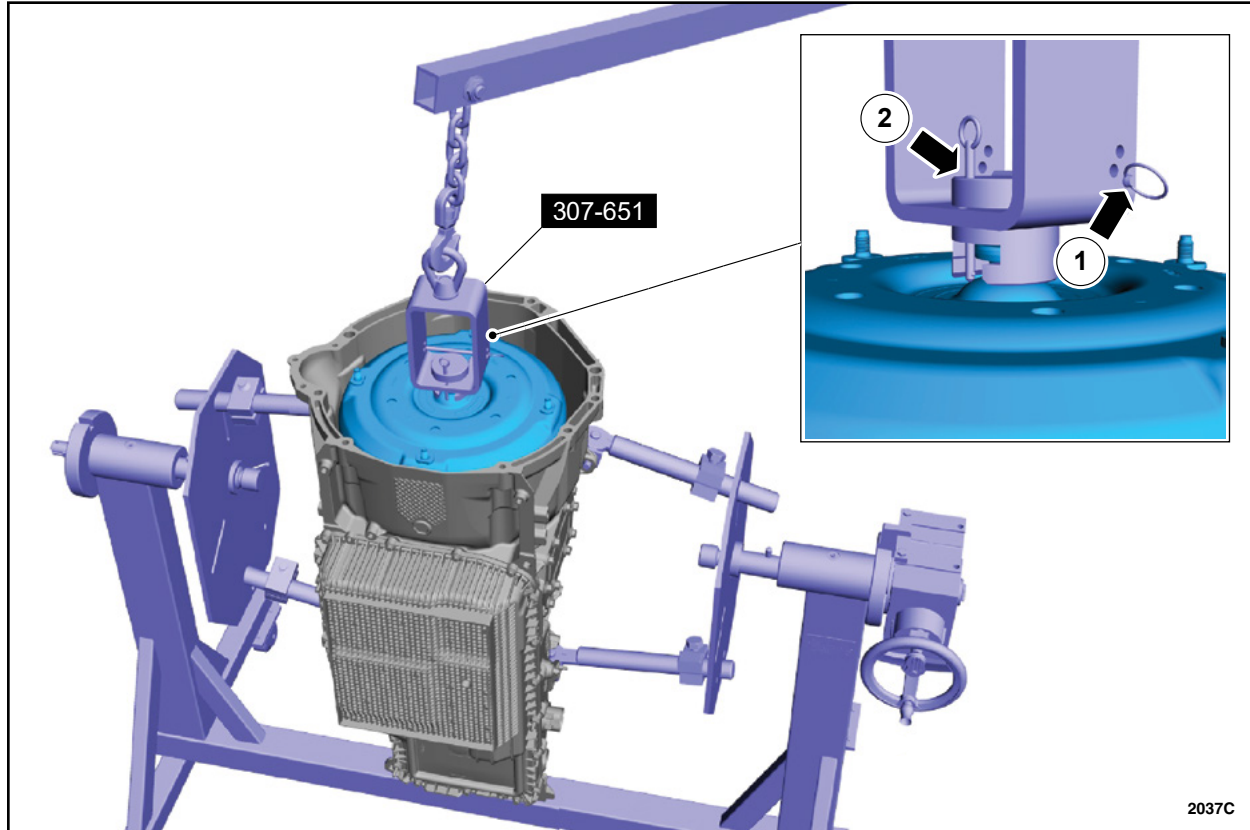

FIGURE 4
4. Using special service tool 307-651 and a floor crane, remove the torque converter. See Figure 4.